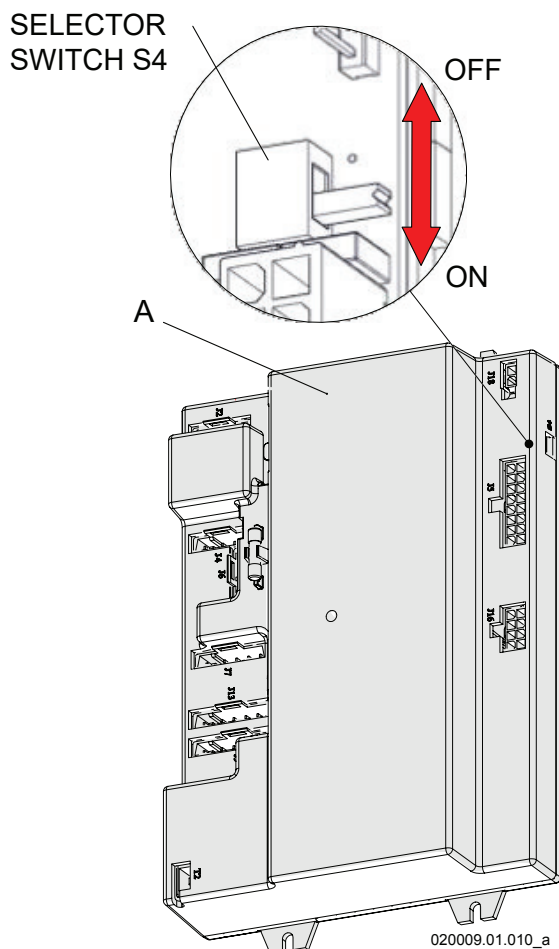

Figure 18-11 - Command board
9. Move selector switch "S4" as shown in figure 18-11, from the OFF position to the new ON position;